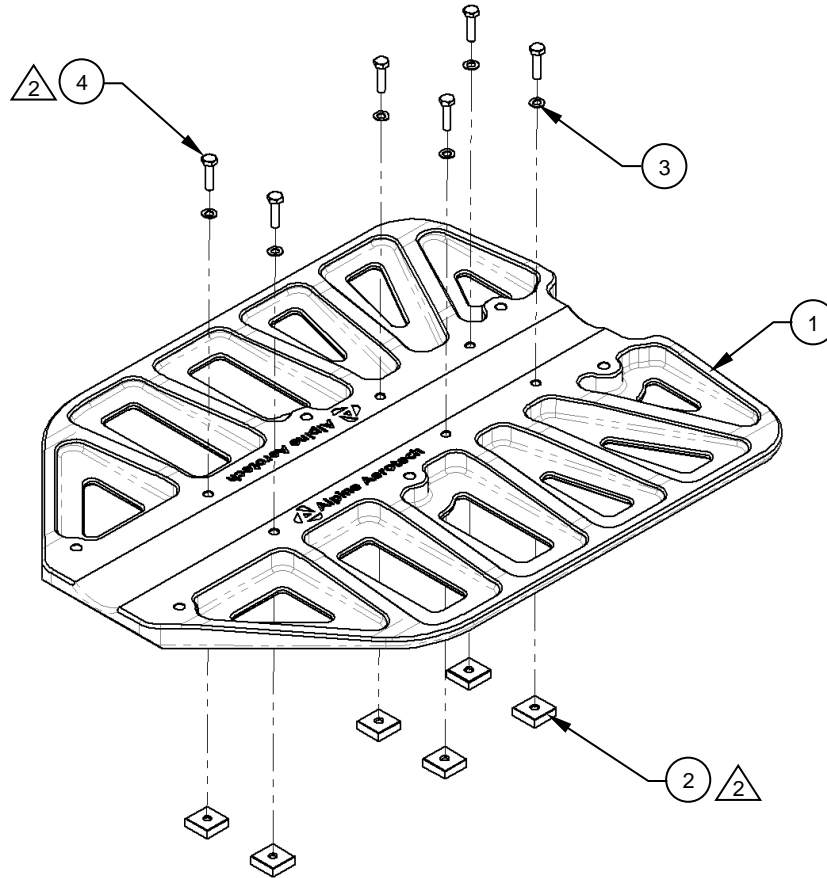

Figure 4
1. Removal of the Grippers (Item 2) can be performed with the Bear Paws (Item 1) installed on the aircraft or on the bench. If removing Grippers while installed on the aircraft, raise the aircraft and make it safe and ready for maintenance prior to proceeding. Reference Figure 4.
2. Remove Bolts (Item 4), Washers (Item 3) and Grippers (Item 2) from Bearpaw, Detail (Item 1). Reference Figure 4.
1. Replacement of the Grippers (Item 2) can be performed with the Bear Paws (Item 1) installed on the aircraft or on the bench. If removing Grippers while installed on the aircraft, raise the aircraft and make it safe and ready for maintenance prior to proceeding. Reference Figure 4.
2. Replace the Grippers (Item 2) and supplied hardware on the Bear Paw, Detail (Item 1) as shown. Ensure all serrated surfaces on the Grippers are facing down (serrations must be common to the ground). Ensure Thread-locker (Item 18) is applied (mandatory). Torque all Gripper fasteners IAW General Note 2. Reference Figure 4.